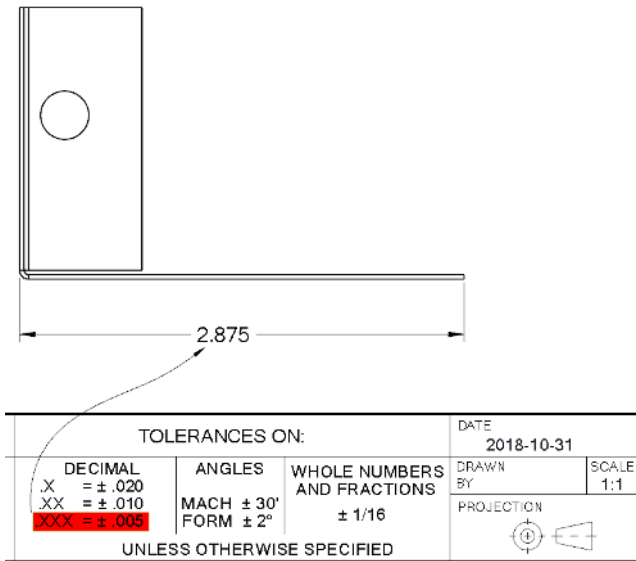

Figure 2a;
- 3) DON'T rely solely on the default tolerance table! Besides specifying the tolerance based on the number of decimal places, the same table almost always states UNLESS OTHERWISE SPECIFIED. Even if you have modified your default tolerance table (as suggested in points 1 & 2 above), there may be features that can afford greater tolerances (that may otherwise be cost-drivers). If so, override (..OTHERWISE SPECIFY...) the default tolerance by adding the more relaxed tolerance right after the dimension. Figure 2a below shows a dimension of 2.875, which in the case of the associated default tolerance table, would carry a tolerance of ± .005". If in fact this is not only tighter than necessary, but say that it can also never be below 2.875, override the